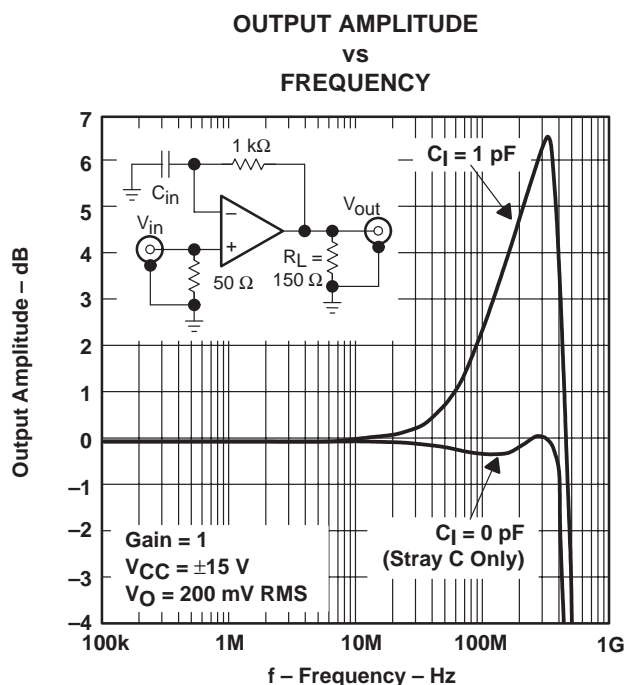
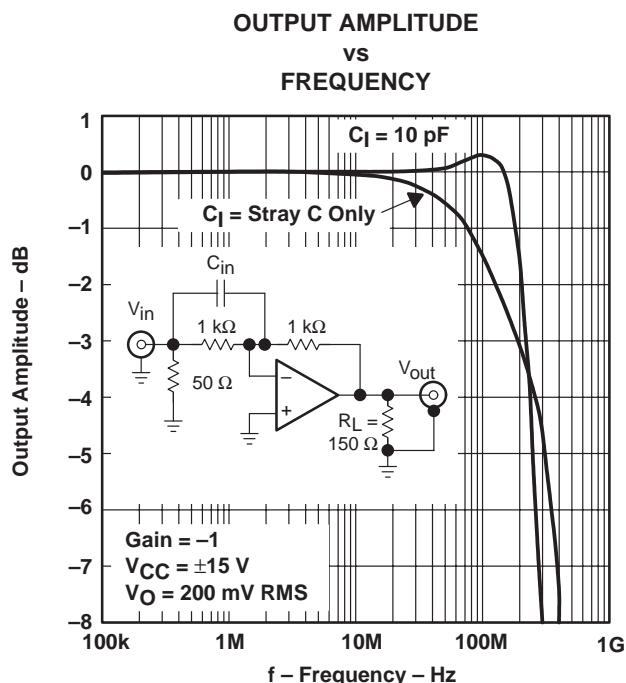

Figure 54
Figure 55
- Input stray capacitance – To minimize potential problems with amplifier oscillation, the capacitance at the inverting input of the amplifiers must be kept to a minimum. To do this, PCB trace runs to the inverting input must be as short as possible, the ground plane must be removed under any etch runs connected to the inverting input, and external components should be placed as close as possible to the inverting input. This is especially true in the noninverting configuration. An example of this can be seen in Figure 54, which shows what happens when a 1-pF capacitor is added to the inverting input terminal. The bandwidth increases at the expense of peaking. This is because some of the error current is flowing through the stray capacitor instead of the inverting node of the amplifier. Although, while the device is in the inverting mode, stray capacitance at the inverting input has a minimal effect. This is because the inverting node is at a *virtual ground* and the voltage does not fluctuate nearly as much as in the noninverting configuration. This can be seen in Figure 55, where a 10-pF capacitor adds only 0.35 dB of peaking. In general, as the gain of the system increases, the output peaking due to this capacitor decreases. While this can initially look like a faster and better system, overshoot and ringing are more likely to occur under fast transient conditions. So proper analysis of adding a capacitor to the inverting input node should be performed for stable operation.